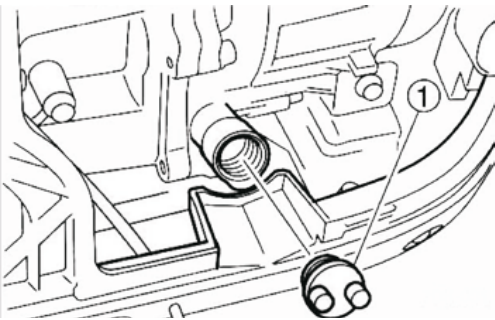

Figure 2
Remove the oil filler cap ① (seen in figure 2)